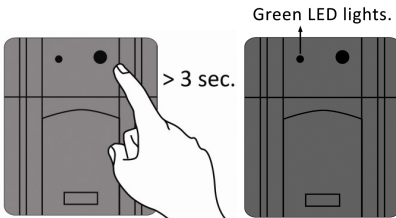
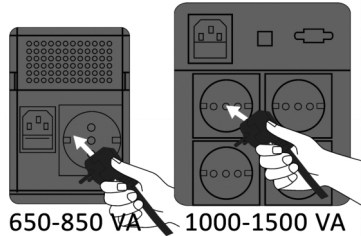

Figure 3.3
Figure 3.4
- b. Press and hold On/Off button until a warning beep sounds (Figure 3.3). If mains voltage and frequency are within the limits, the Operation Status LED lights in green. Then, you can connect your loads to output socket(s) (Figure 3.4). If they are out of limits, the Operation Status LED lights in orange (See: Start on Battery).